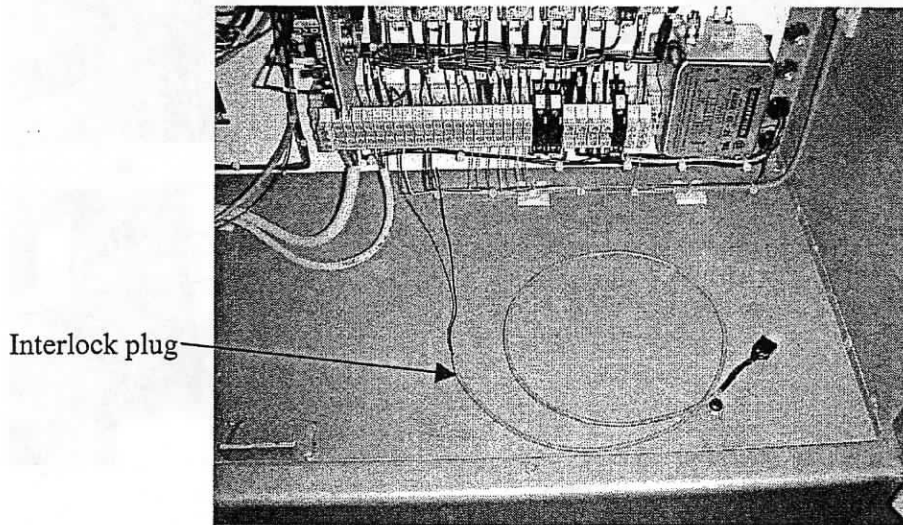

Figure 8
15. Wire the interlock plug into the terminals 25 and 26 (see **Figure 8**). Either wire can be wired to either terminal. Route the interlock plug through the top slot in the back of the electrical control box.